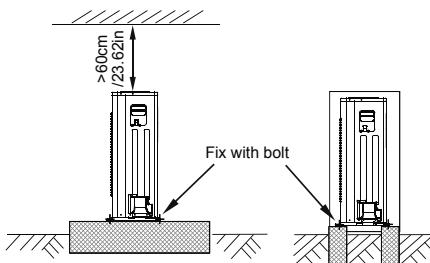

Fig.6-15
- Make concrete foundation according to the specifications of the outdoor units.(Refer to Fig.6-15)
- Fasten the feet of this unit with bolts firmly to prevent it from collapsing in case of earthquake or strong wind.(Refer to Fig.6-15)